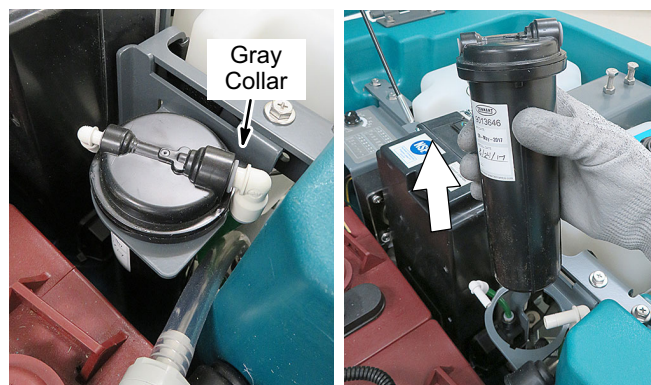

FIG. 142
3. Disconnect the two hose connectors from the top of the cartridge by pressing the gray collars inward and pulling the connectors outward (Figure 142). Lift cartridge to remove.